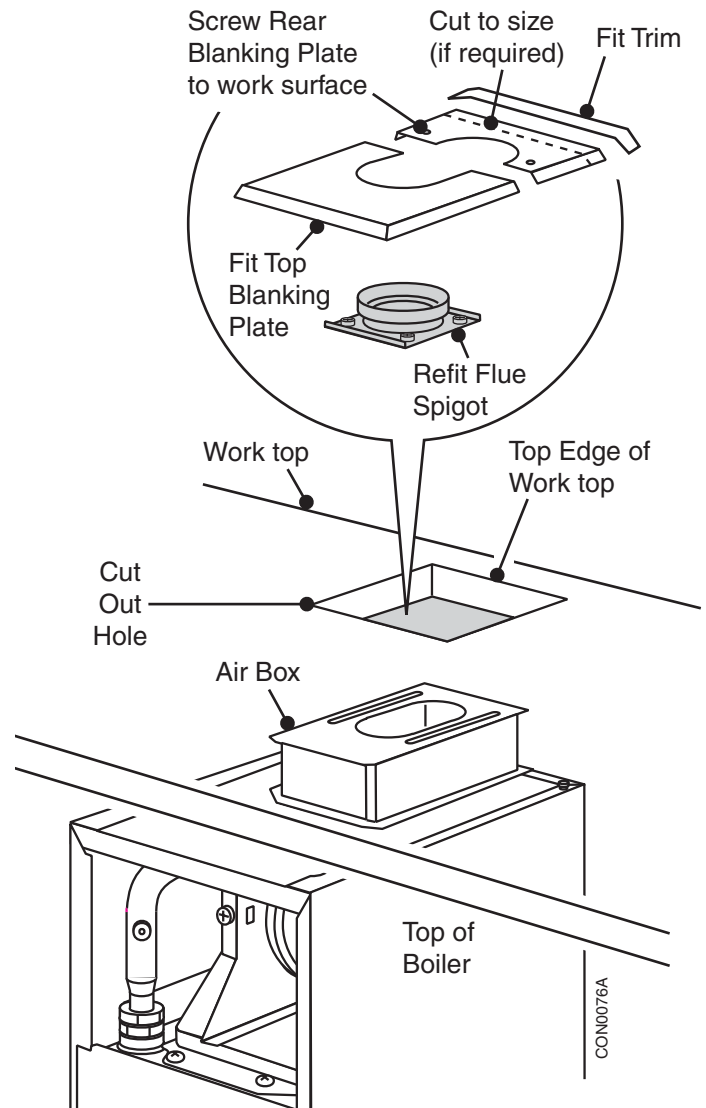

Fig. 15
1. If the flue is not fitted in the fully forward position, the rear blanking plate will need to be cut to size, cut trim to length as required. See Fig. 15.
2. Locate the top blanking plate as shown in Fig. 15.